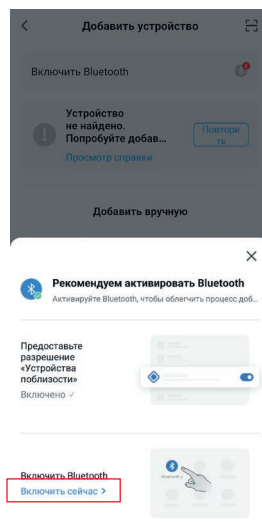

Fig. 3
- Turn on Bluetooth if it has not been activated before (fig. 3).